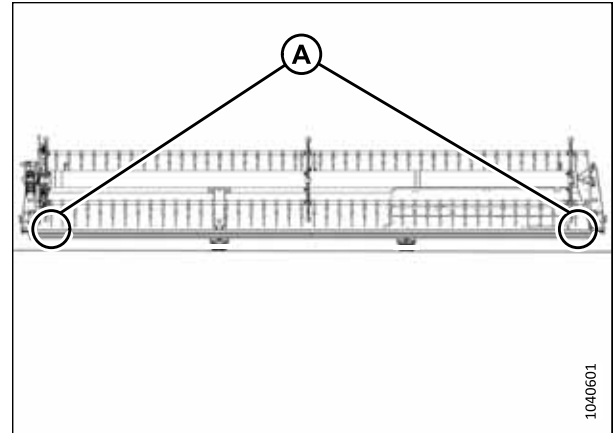

Figure 7.24: Single-Reel Measurement Locations
- Figure 7.24, page 183 – single reel